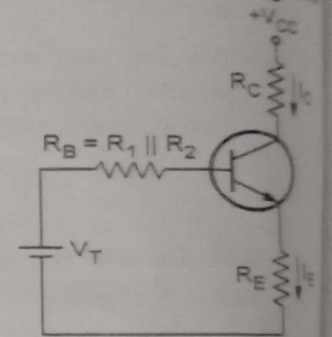

Fig. Q.59.2 Thevenin's equivalent circuit for voltage divider bias
- Fig. Q.59.2 shows Thevenin's equivalent circuit of voltage divider bias. Here, R_1 and R_2 are replaced by R_B and V_T , where R_B is the parallel combination of R_1 and R_2 and V_T is the Thevenin's voltage. R_B can be calculated as
Applying KVL to the base circuit of Fig. Q.59.2 we get,